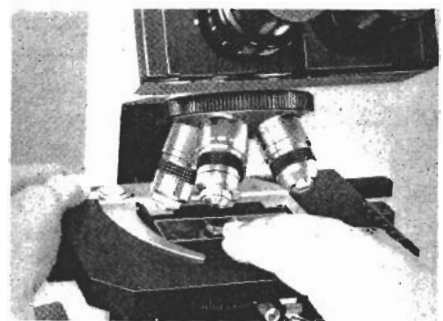

Fig. 8
- 2) Opening the spring-loaded finger of the specimen holder with one hand, place a specimen slide inside the holder. (Fig. 8) When the slide comes in contact with the back of the specimen holder, slowly return the spring-loaded finger.